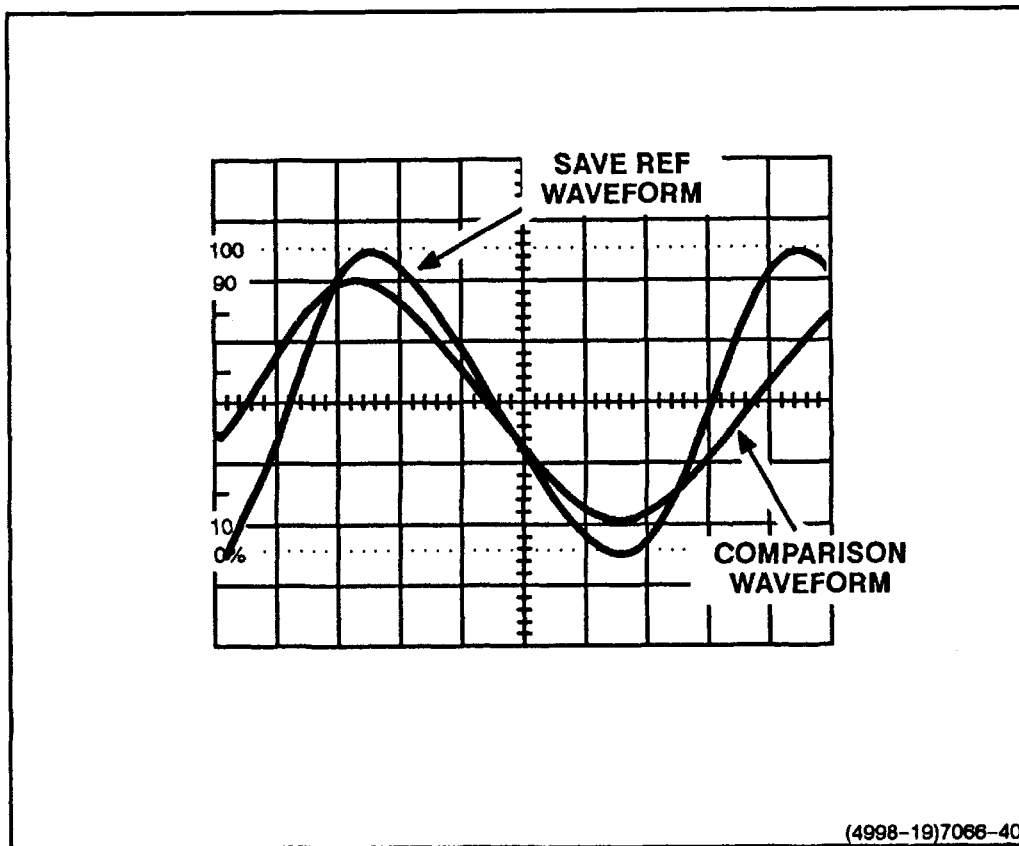

Figure 6-15. Waveform comparison.
8. Use the selected channel's Vertical POSITION control to overlay the newly acquired waveform on the reference waveform for making the comparison (see Figure 6-15). The vertical deflection and sweep rate remain calibrated to allow direct measurement from the graticule, or cursors may be used to determine voltage or time differences.